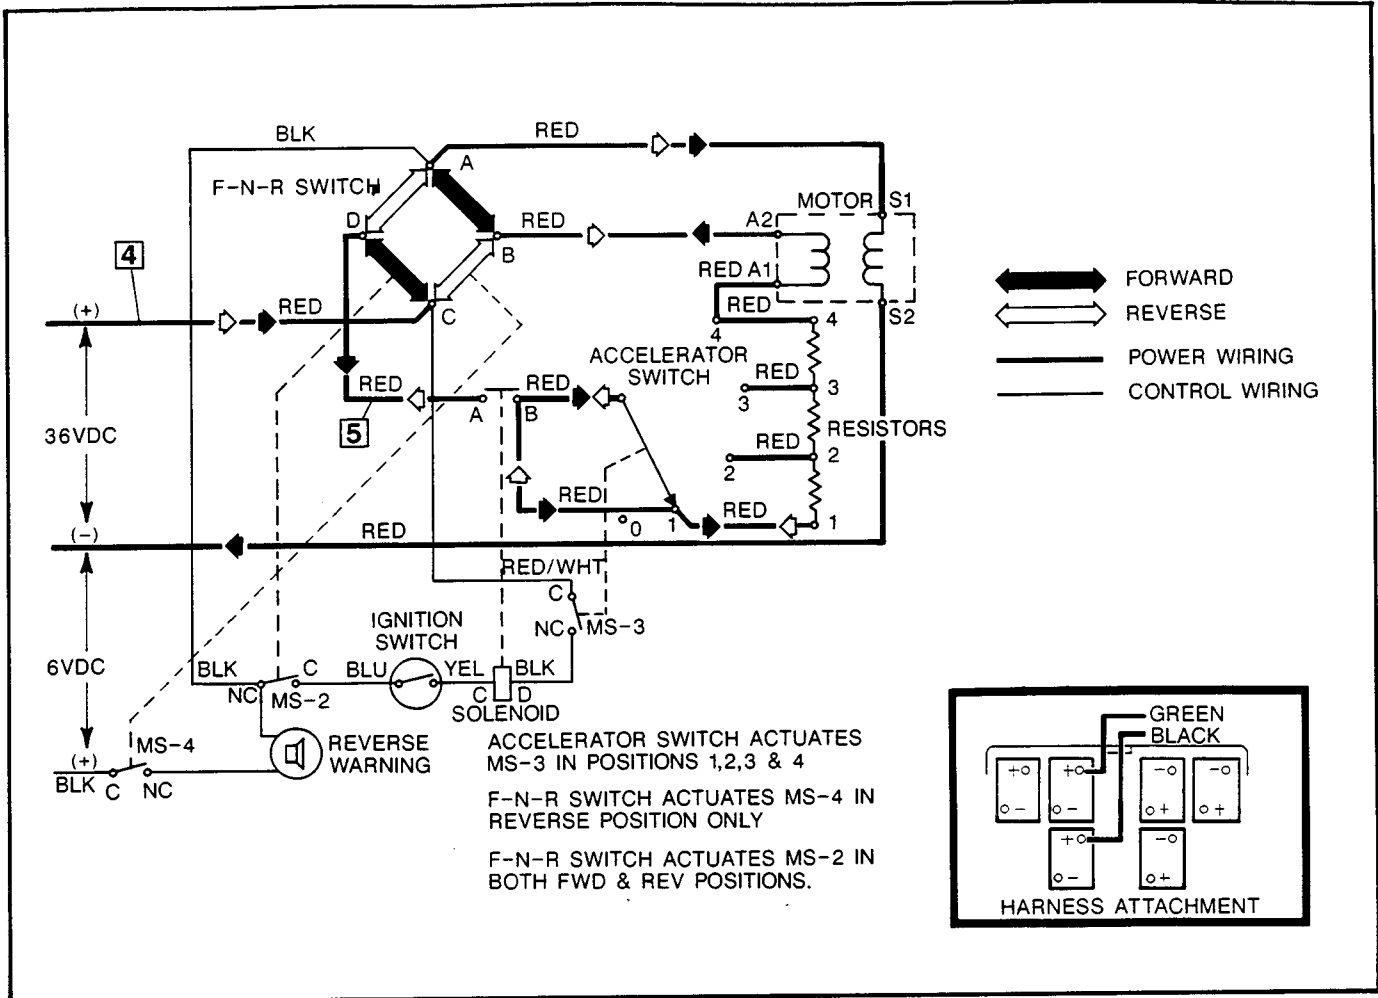

FIG. K-9 ELECTRIC VEHICLE WIRING DIAGRAM
Disconnect the wire #5 (Fig. K-9) at the forward-neutral-reverse switch.
Disconnect the red/white wire at the micro switch, the yellow wire at the solenoid and the wire from motor terminal A1 (Fig. K-9). Disconnect the accelerator linkage (2) from the accelerator switch arm (3) (See Section F). Loosen nut (4) and lift assembly (1) to gain access to hardware (5 and 6) securing power wiring to the switch. Remove wiring.
1. Check for loose wires at the terminals-connections and for worn insulation or bare wires touching the frame. **Bare wires may cause a short circuit.** Refer to Fig. K-9 for meter set-up.